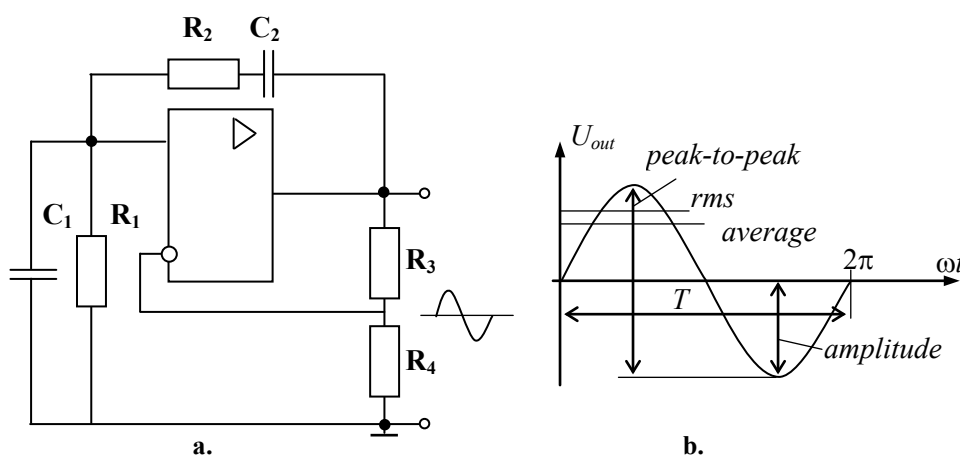

Fig. 2.51
**Sine wave generators.** Fig. 2.51,a shows a *sine wave generator* built as the *Wien bridge*. Thanks to the feedbacks, while the supply voltage is applied, this circuit generates the oscillations shown in Fig. 2.51,b with a period defined as